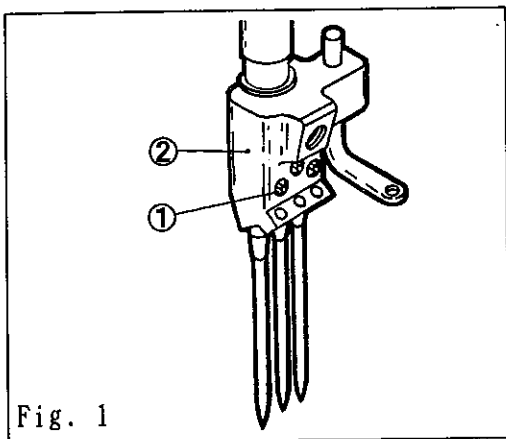
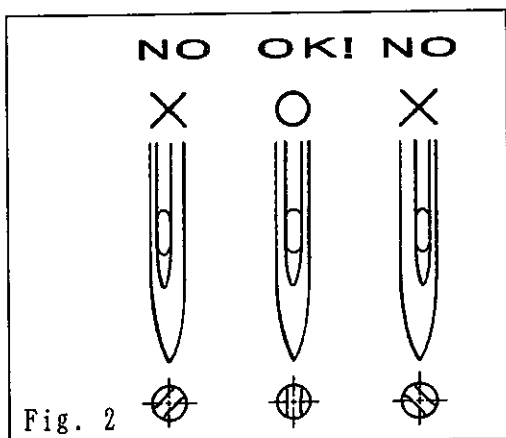

Fig. 1
Fig. 2
- (1) Loosen the screw ① with screwdriver. (Fig. 1)
- (2) Remove the old needle with tweezers.
- (3) See the figures 2 and 3 and insert a new needle into the needle clamp ② facing its scarf to the right back.
- (4) Tighten the screw ① with screwdriver.